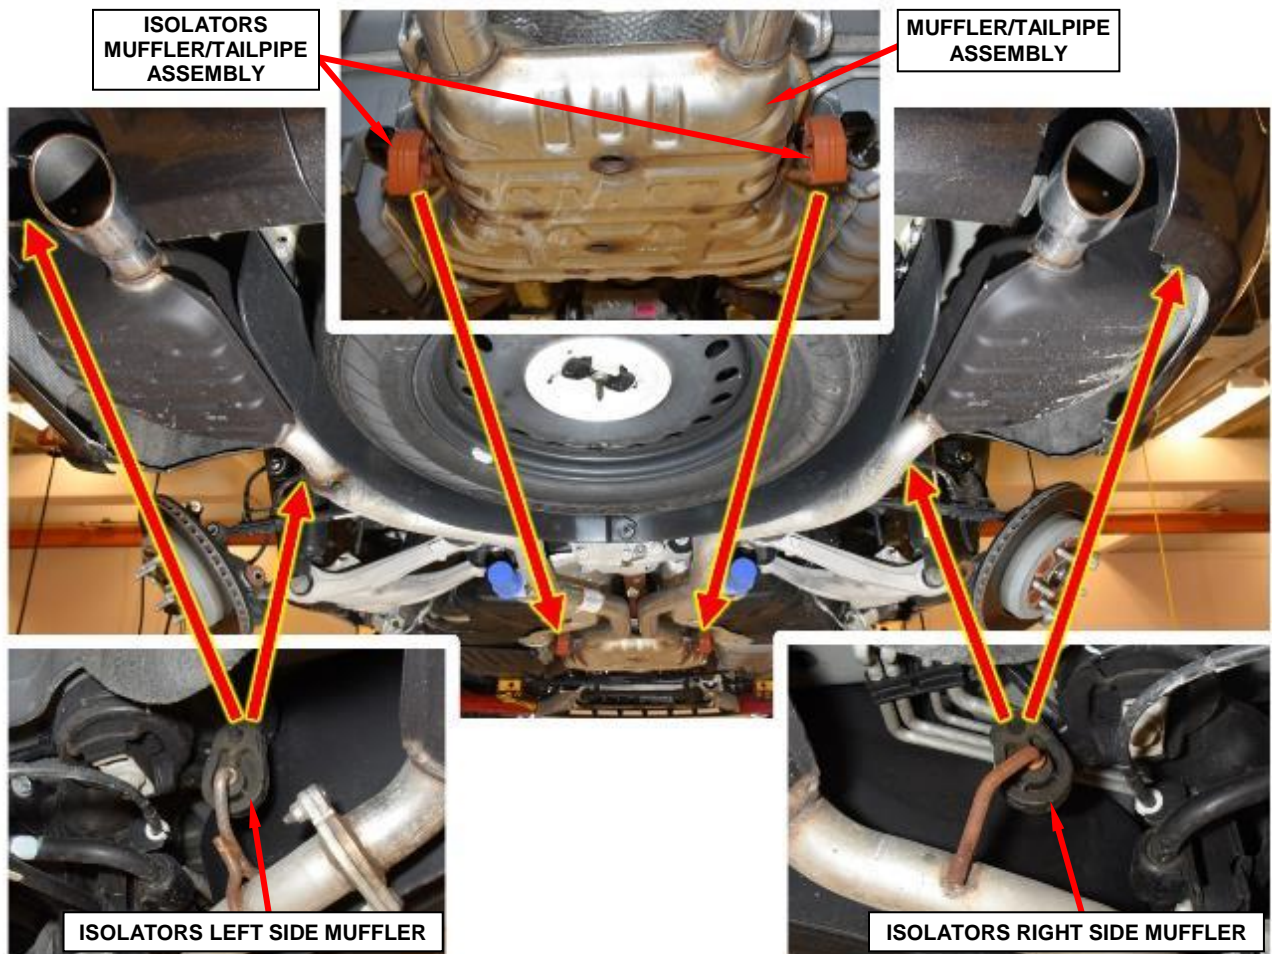

Figure 14 – Exhaust System Isolator Locations
5. Disconnect the isolators from the tailpipe/muffler assembly (Figure 14).
30. Connect the isolators to the tailpipe/muffler assembly (Figure 14).